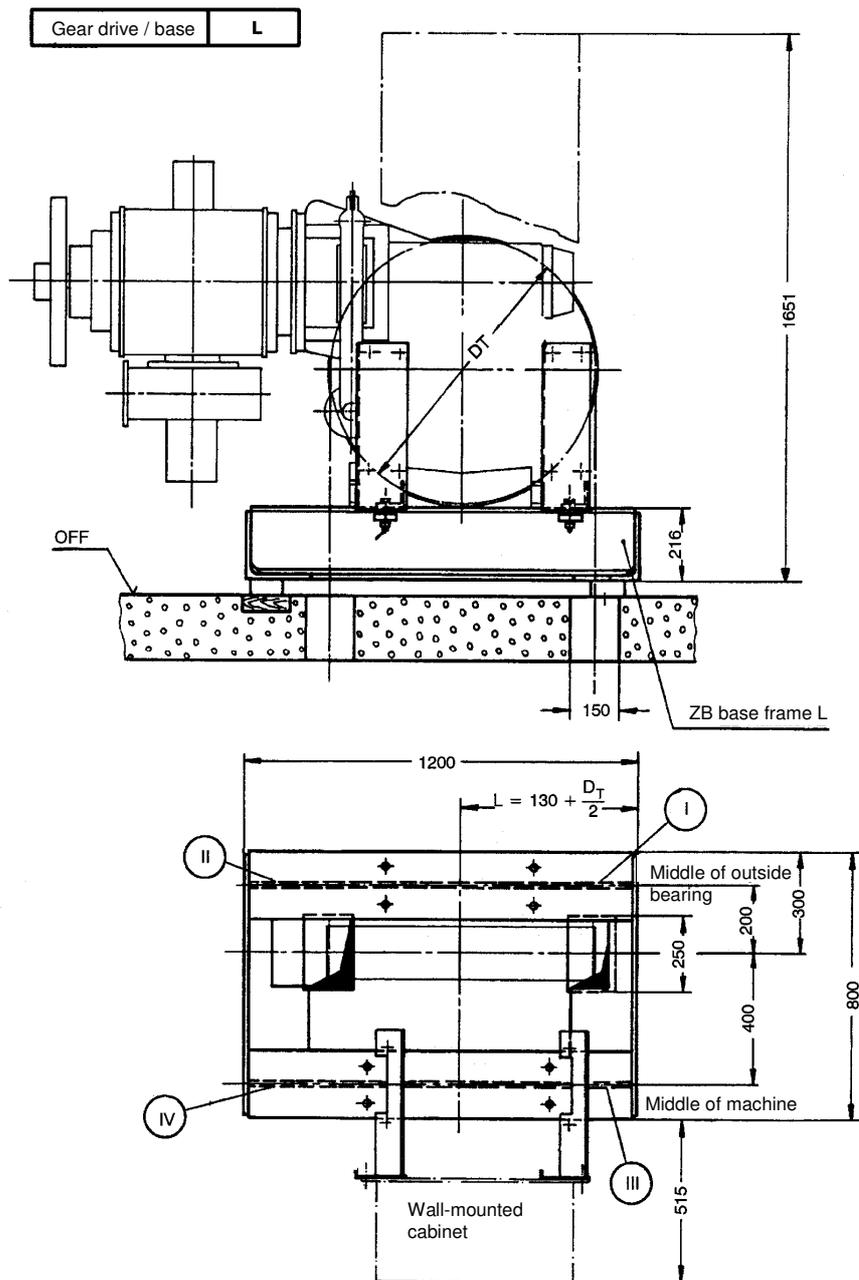

Fig. 3.3.1
1. **Without deflecting pulley**, for direct rope departure elevator car – counterweight, or 2:1 suspension. Version, see Table 1. Illustration, Fig. 3.3.1.
Fig. 3.3.1 Base frame **with** deflecting pulley: the traction sheave must be on the same side as the deflecting pulley. Move the machine sideways on the base frame until the required **ASL** dimension (parallel gap between the ropes at the rope departure) is reached.